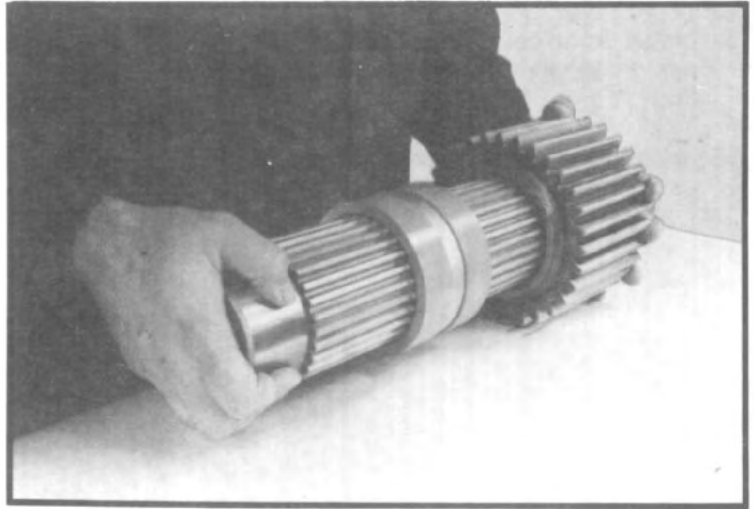

Fig. 82
- Slide underdrive gear onto intermediate shaft. (See fig. 82.)